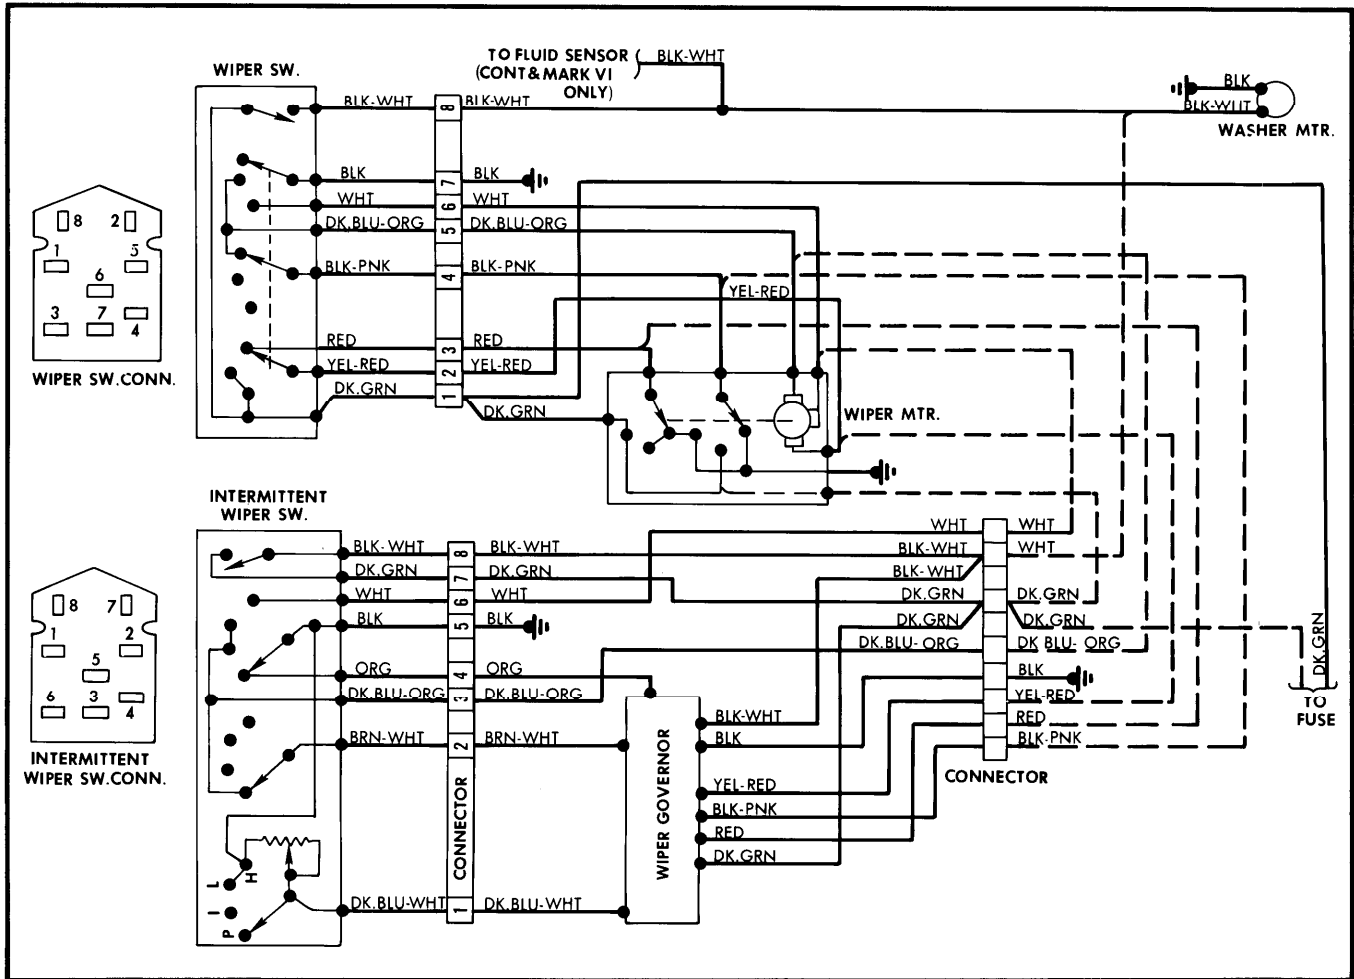

Fig. 2 Concealed Wiper System Wiring Diagram
**NOTE** — See Wiper switch connector terminal identification in Fig. 2.